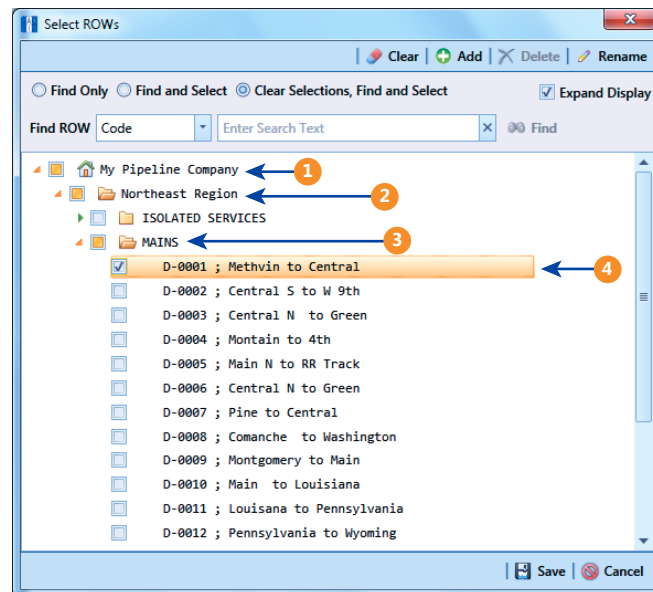

Figure 3-2. Example of Hierarchy Structure
PCS Axis supports a hierarchy structure with up to five (5) levels. The top hierarchy level includes either your company's name or other type of descriptor. The following figure shows a hierarchy structure with three (3) hierarchy levels (Figure 3-2).